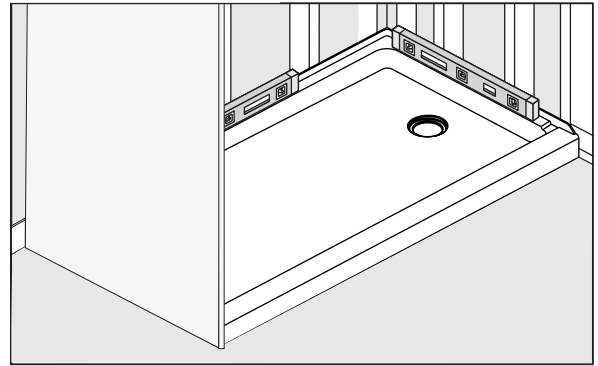

FIG 1 Check to assure base is level by placing a level in a horizontal position on top of the threshold (front rim) of the base, sides and back.
- 2** Trial fit base in prepared alcove. With base sitting flat on floor, check with level on top of base. Base should be level from front-to-back and side-to-side (**Fig 1**).